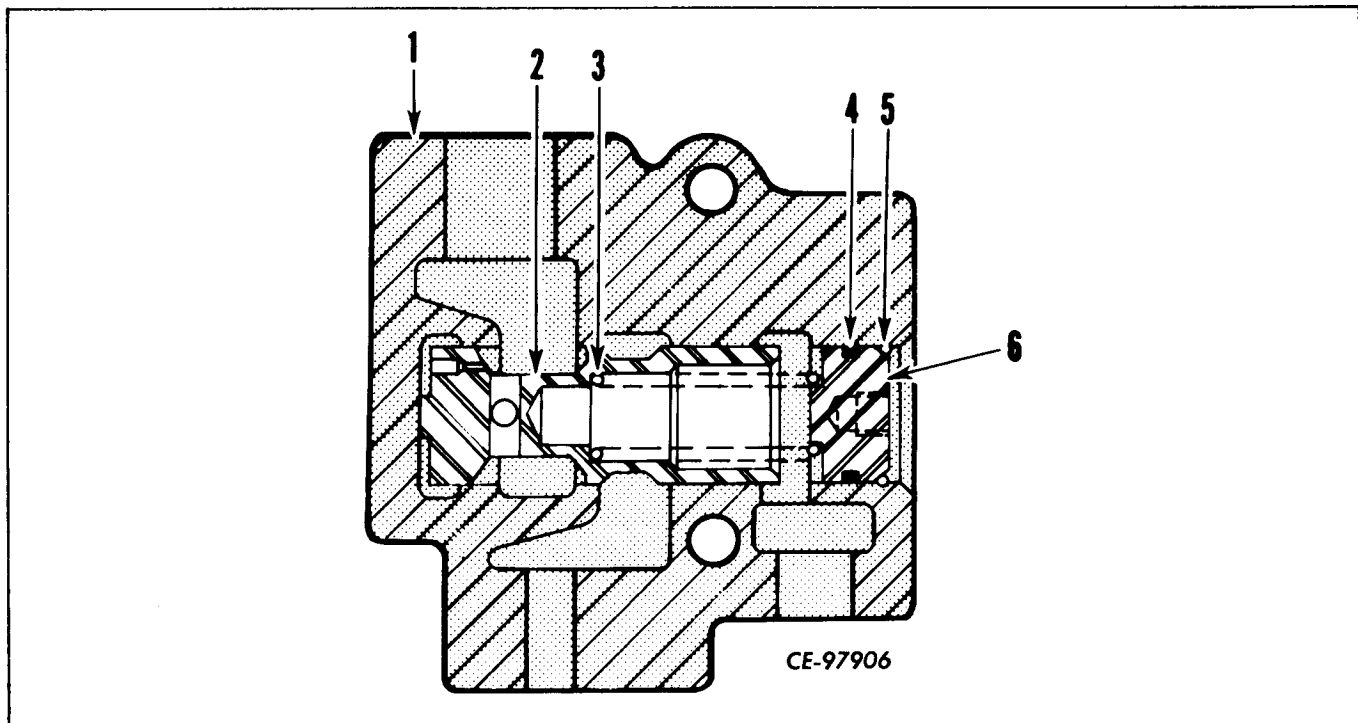

Figure 11-21
Remove retainer ring (5, Fig. 11-21) from end cap (6) and install a cap screw into bore of end cap. Remove end cap from valve body.
Install piston (2, Fig. 11-21) into valve body. Install spring (3) into bore of piston.